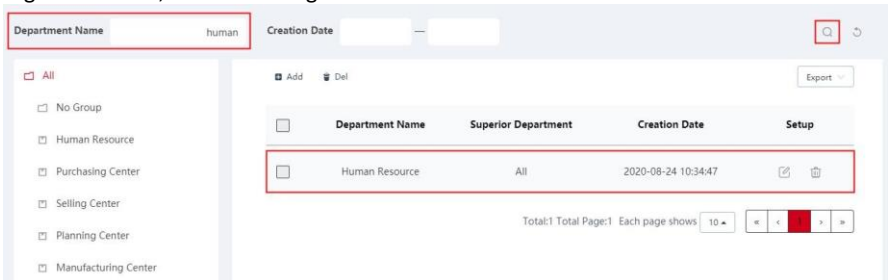

Figure 5-38
Step 3: Enter a piece of information for the search organization (Such as Department No., Department Name or Creation Date), click "🔍", search results will be displayed in the organization list, as shown in Figure 5-38 below.